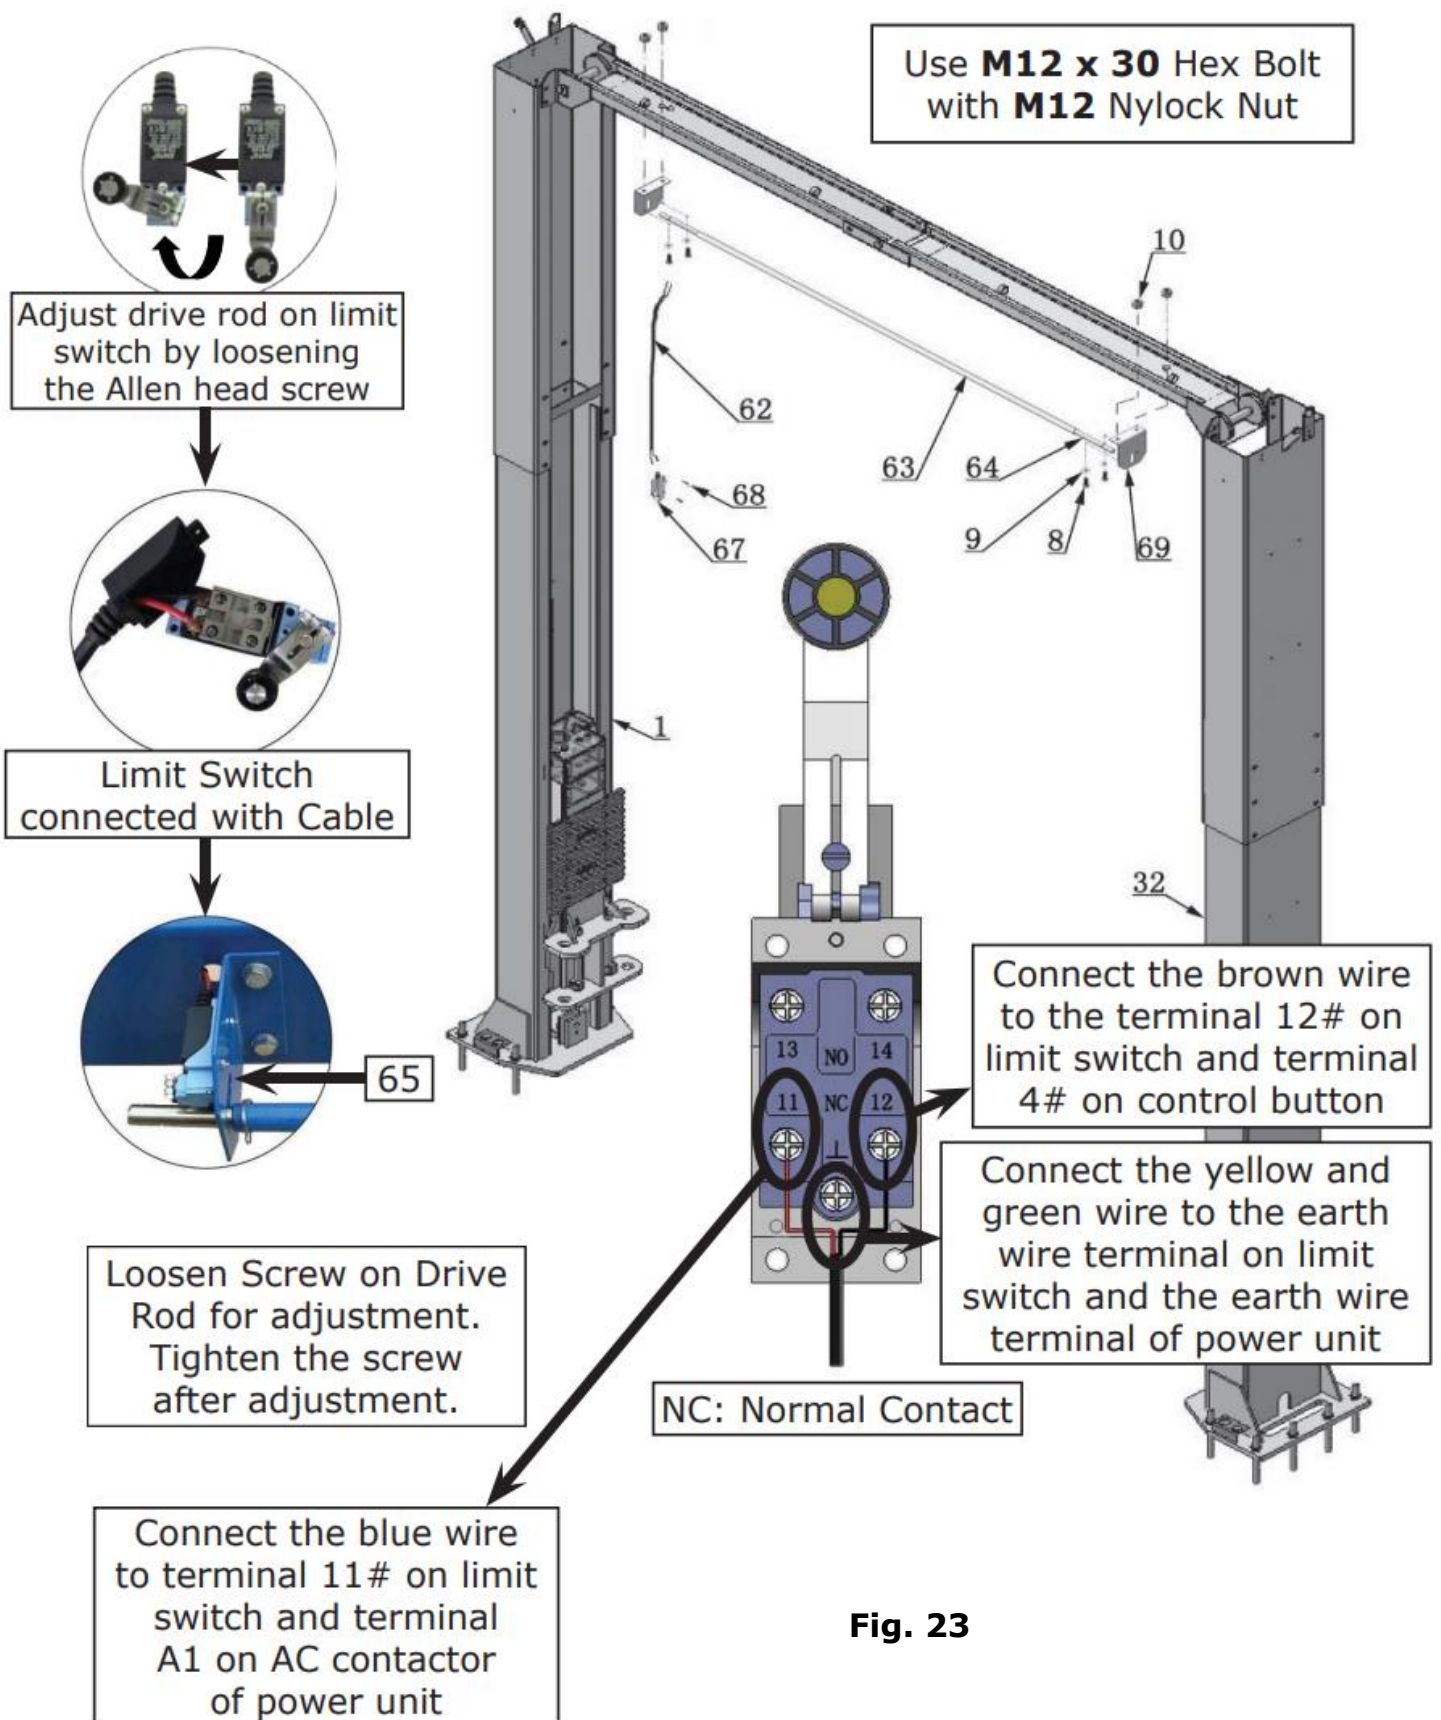

Fig. 23
I. Installing the limit switch control bar and limit switch (See Fig. 23)